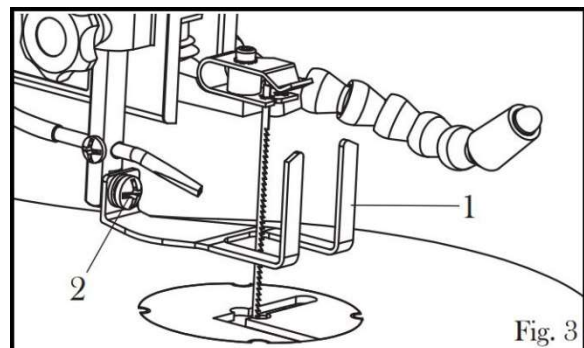

Figure 3
1. Remove the blade guard foot (1). This can be done using a Phillips head screwdriver. Loosen the Phillips head screw (2) as indicated in Figure 3 below.
8. Reattach the blade guard foot (1) so that the foot rests flat against the table. Now tighten the Phillips head screw (2). (figure 3)